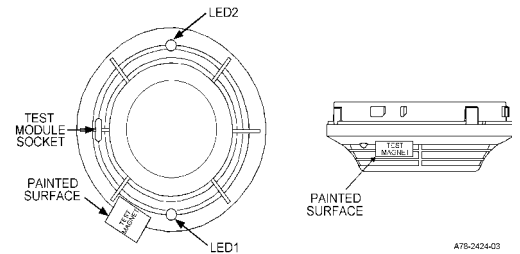

Figure 1. Bottom and side views showing position of test magnet.
1. Test the sensor by positioning the optional test magnet against the sensor plastic just to the left of LED1 (Figure 1).